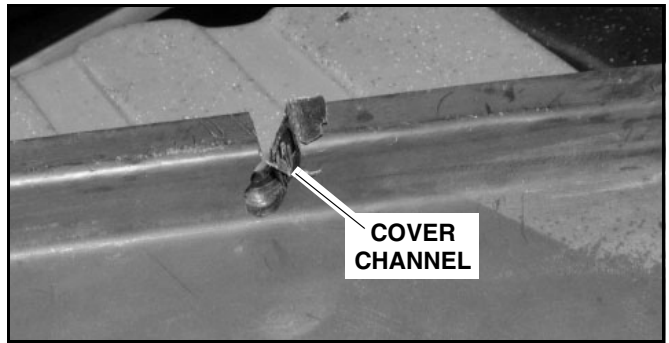

Figure 11
2. Remove material from cover for harness as shown (See Figure 11).